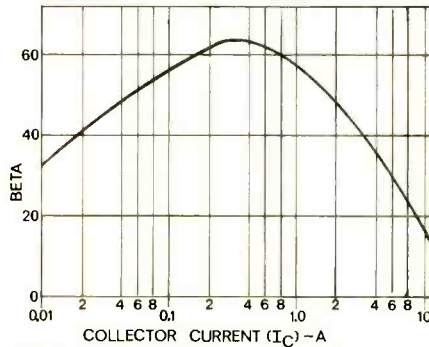
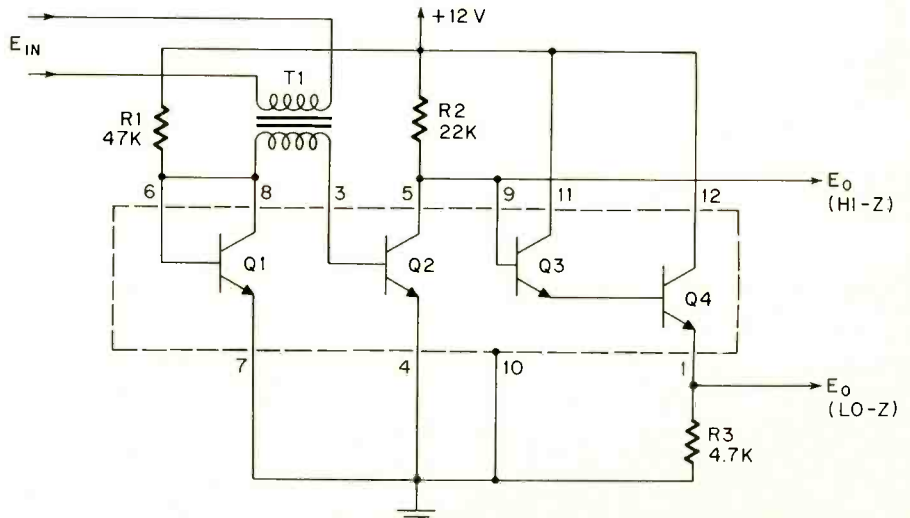

FIG. 3—BETA CURVE shows how dc beta varies with collector current when  $V_{CE}$  is 4 volts.
FIG. 2—MATCHED TRANSISTORS in a transformer-coupled amplifier. Pin numbers shown are for the CA3018; T1 is an audio line-to-line or step-up transformer.
12. The emitter resistance is 0.56 ohms. When reflected into the base circuit, it appears as a dc resistor equal to the beta of the transistor multiplied by  $R_E$ . The dc beta curve, reproduced in Fig. 3, shows the average beta is about
You can make an ultra simple amplifier out of this matched transistor combination simply by modulating the bias applied to Q2. This can be done in two ways, transformer coupling (Fig. 2) or direct current addition as in Fig. 3.
scheme of Figure 3. This method sums in an ac current through  $R_{in}$  with the dc bias in Q1, and in so doing modulates the base voltage applied to Q2. Q1 automatically develops a base voltage for Q2 proportional to this modulation current. And, since Q2 is matched it develops a corresponding current in its collec-
FIG. 3—DIRECT COUPLING in an amplifier using transistor array. Voltage gain is approximately  $R_2/R_{in}$ . Input impedance approximates  $R_{in}$  when  $R_{in}$  is much greater than the input (diode) impedance of Q1. With values shown,  $Z_{i1}$  is about 100 ohms.